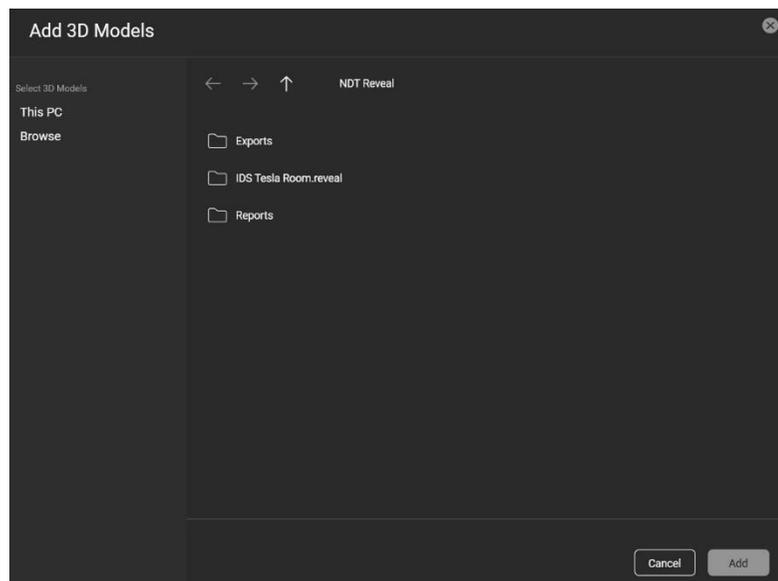

Fig. 24 Browsing through folders to Add 3D Models
- Browse through the folders location to select the 3D Model you want to add, and press “Add” (Fig. 24).